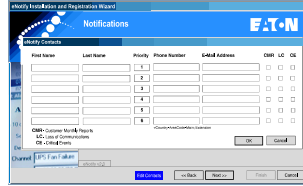

Figure 18. Set Contact Persons to Notify
- On the Notifications screen (Figure 18), type each contact's **Name**, **Phone Number**, and **E-Mail Address**. See the Checklist for the list of contacts to notify.
To edit the list, click **Edit Contacts** to return to the previous screen (Figure 18) and make changes.